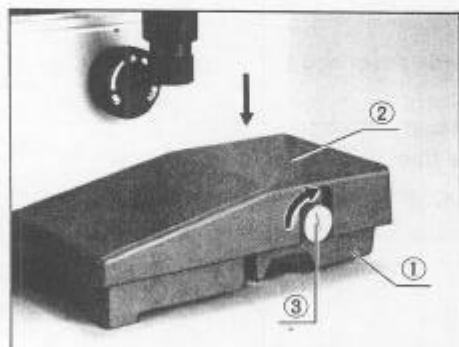

Fig. 17
Attach the hand rests ② on the right and left sides ① of the microscope base, clamp knobs 3 with a coin. (Fig. 17)